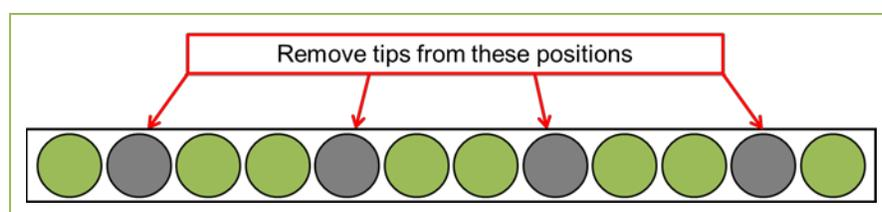

Figure 2: Tip Loading Strategy for a 12-channel Pipettor
- Before adding medium, load a 12-channel pipettor with sterile tips and remove tips from the positions identified in Figure 2.